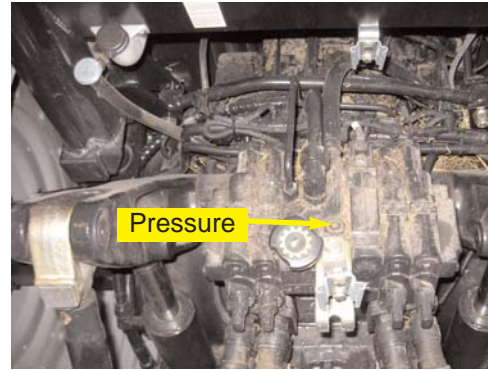

Figure 3a. Pressure location.
- a. The automated steering block will receive pressure from the top port on the hydraulic valve stack at the back of the tractor. The automated steering block will return to the tank port on the steering orbital which is located on the fire wall. (Figure 3a. and 3b.)